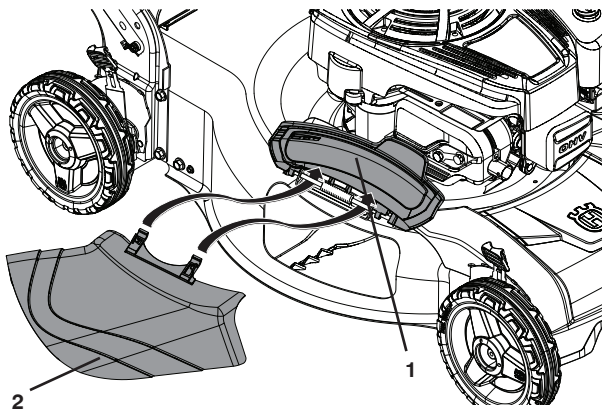

Figure 12
2. Open mulcher door and install discharge deflector under door as shown (Figure 12).